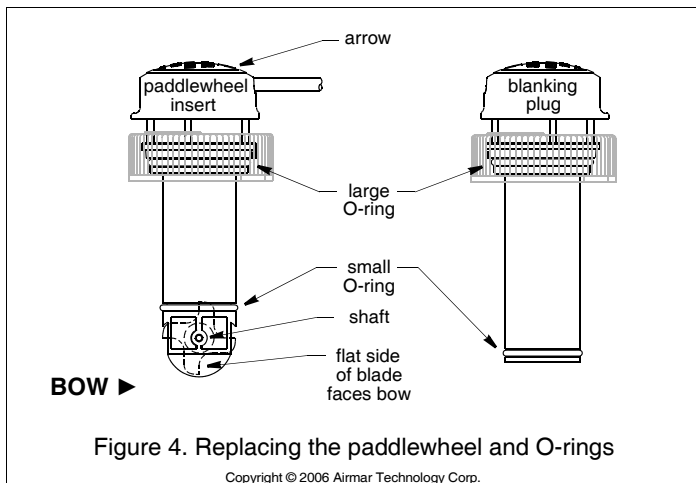

Figure 4. Replacing the paddlewheel and O-rings
1. On the blanking plug, inspect the O-rings (replace if necessary) and lubricate them with the silicone lubricant supplied or petroleum jelly (Vaseline®) (see Figure 4). The O-rings must be intact and well lubricated to make a watertight seal.
1. Using the new paddlewheel shaft, push the old shaft out about 6mm (1/4"). With pliers, remove the old shaft (see Figure 4).